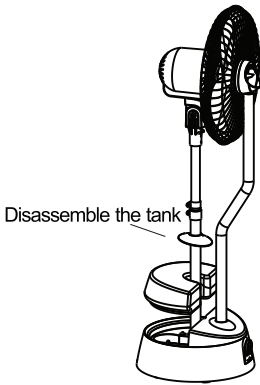
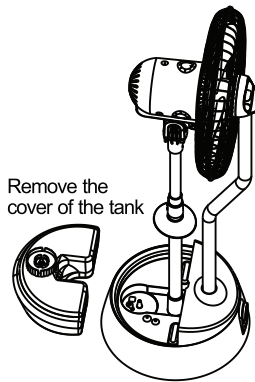
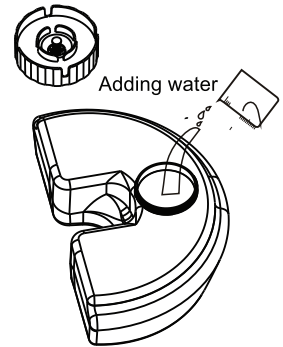

Figure 1
Figure 2
Figure 3
- See (Figure1) Turn the tank lock (Figure1) to the on-lock position (Figure1), take off the water tank (Figure2) from the fan body, and unscrew the lid (Figure3) of the water tank.
- Turn the tank lock (Figure3) to the off-lock position (Figure1) to secure the tank.